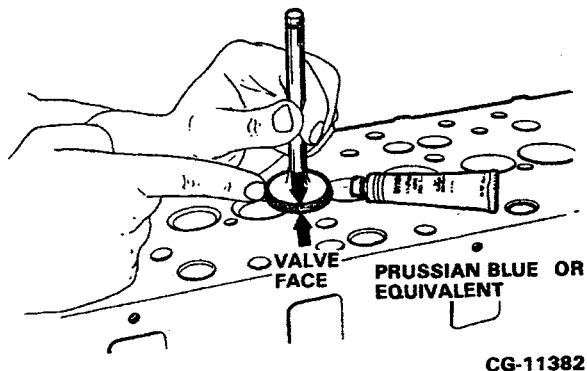

Figure 4.44. Apply Bluing to Valve Face
- a. Spread thin film of Prussian Blue™ on valve face. Insert valve into its guide. Refer to Figure 4.44.
IF A NEW VALVE WILL NOT CORRECT AN EXCESSIVE RECESSION CONDITION, THE VALVE SEAT MUST BE REPLACED AND REGROUND. IF THE VALVE FACE PROTRUDES ABOVE THE DECK, THE VALVE SEAT WILL HAVE TO BE REGROUND DEEPER INTO THE HEAD. AFTER REGRINDING ANY SEAT, RECHECK THE SEAT WIDTH (SEE FIGURE 4.47) AND CONFIRM VALVE SEAT CONTACT USING PRUSSIAN BLUE™. (SEE FIGURES 4.44 AND 4.45.)